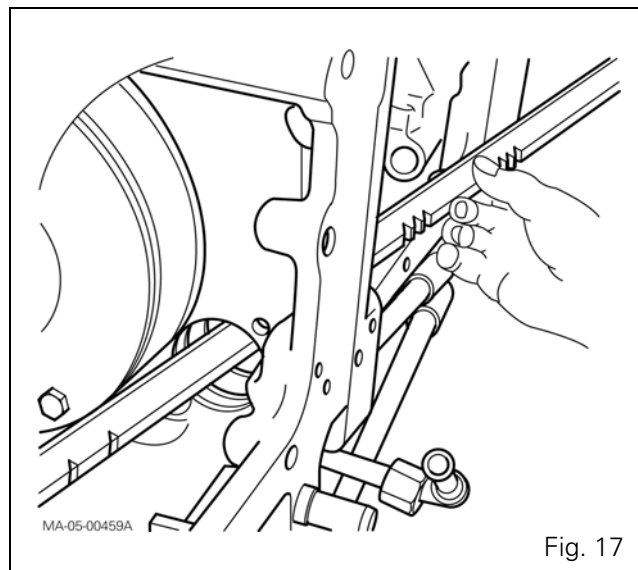

Fig. 17
- 61.** If necessary, remove the locking stop (18).
- 62.** Take the selector rail out through the selector cover plate opening by passing it through the Hare / Tortoise cylinder bore (Fig. 17).
64. Refit the selector rail through the selector cover plate opening and the Hare / Tortoise cylinder bore (Fig. 17).